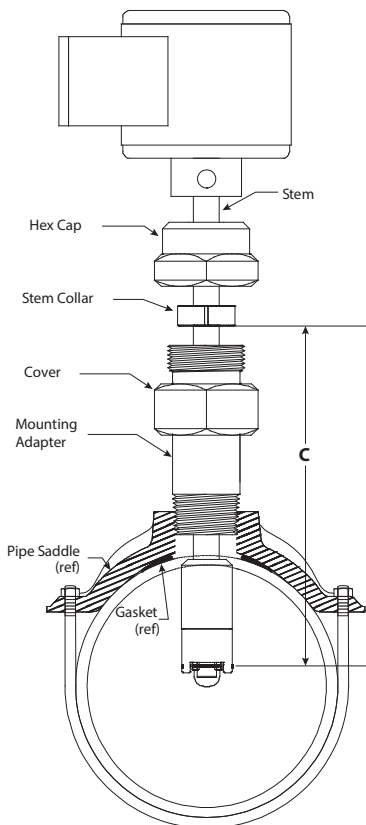

Figure 6: Dimension C
- c. Add this number to the reference measurement. The resulting number is dimension C in Figure 6
- c. Add this number to the reference measurement. The resulting number is dimension C in *Figure 6*